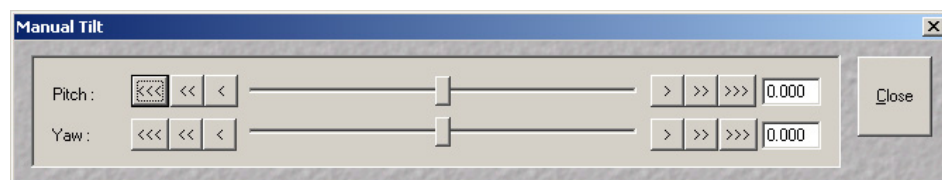

Fig. 4-283      Manual Tilt window
**Manu Tilt** button                      Clicking on the **Manu Tilt** button opens the **Manual Tilt** window (Fig. 4-283) for manual tilt correction.